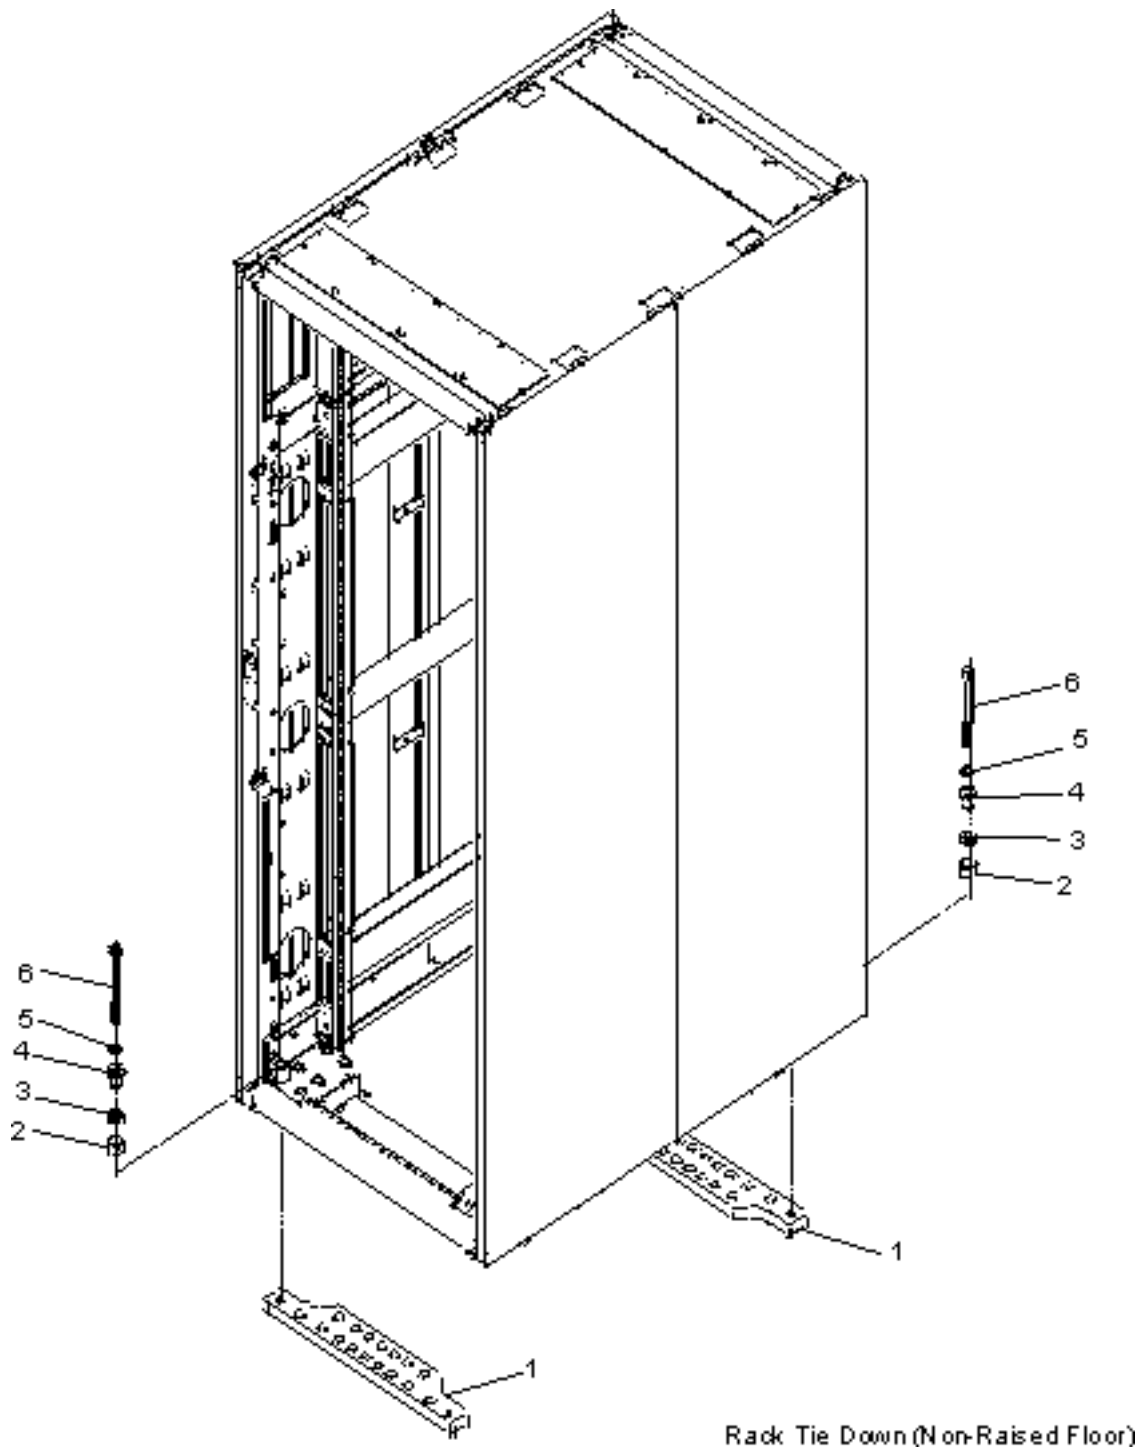

Figure 39. Rack tie down (nonraised floor)
2. Place the mounting plates (item 1 in Figure 39), front and rear, in the approximate mounting position under the system rack.
- a. Place the four rack-mounting bolts (item 6 in Figure 39) through the plate assembly holes at the bottom of the rack. Install the bushings and washers (item 4 and 5 in Figure 39) to ensure bolt positioning.
- b. Position the mounting plates (item 1 in Figure 39 on page 115) under the four rack-mounting bolts (item 6 in Figure 39 on page 115) so that the mounting bolts are centered directly over the tapped holes.
- c. Turn the rack-mounting bolts (item 6 in Figure 39 on page 115) three or four rotations into the tapped holes.
- Mounting plate bolt pattern: (10) x 65.5 mm